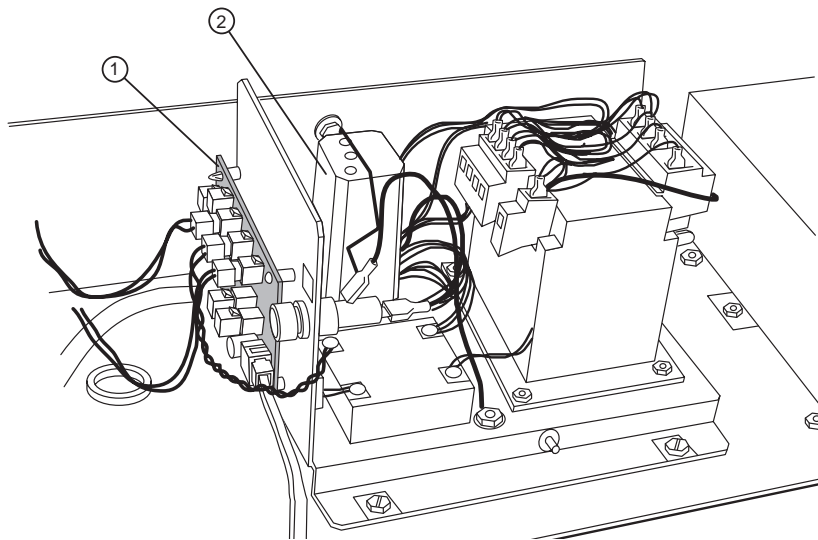

Figure 4-53 Vacuum board.
①—Electronics box.②—Three hex nuts.
3. Remove the three (3) connectors from the vacuum board, which is located inside the electronics box on the left hand side. Refer to Figure 4-53.